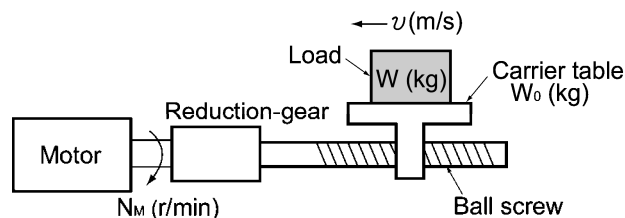

Figure 9.6 Moving a Load Horizontally
A simplified mechanical configuration is assumed as shown in Figure 9.6. If the mass of the carrier table is  $W_0$  (kg), the load is  $W$  (kg), and the friction coefficient of the ball screw is  $\mu$ , then the friction force  $F$  (N) is expressed as follows, which is equal to a required force for driving the load:
Assume a carrier table driven by a motor as shown in Figure 9.6. If the table speed is  $v$  (m/s) when the motor speed is  $N_M$ (r/min), then an equivalent distance from the shaft is equal to  $60 \cdot v / (2\pi \cdot N_M)$  (m). The moment of inertia of the table and load to the shaft is calculated as follows: